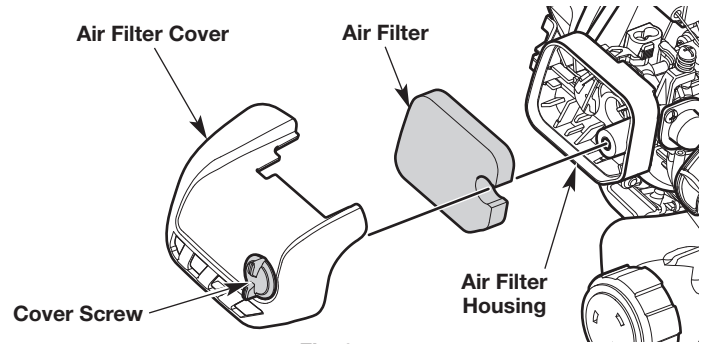

Fig. 34
1. Open the air filter cover by unscrewing the cover screw (Fig. 34).
2. Remove the air filter from the air filter housing (Fig. 34).
6. Reinstall the air filter in the air filter housing (Fig. 34).